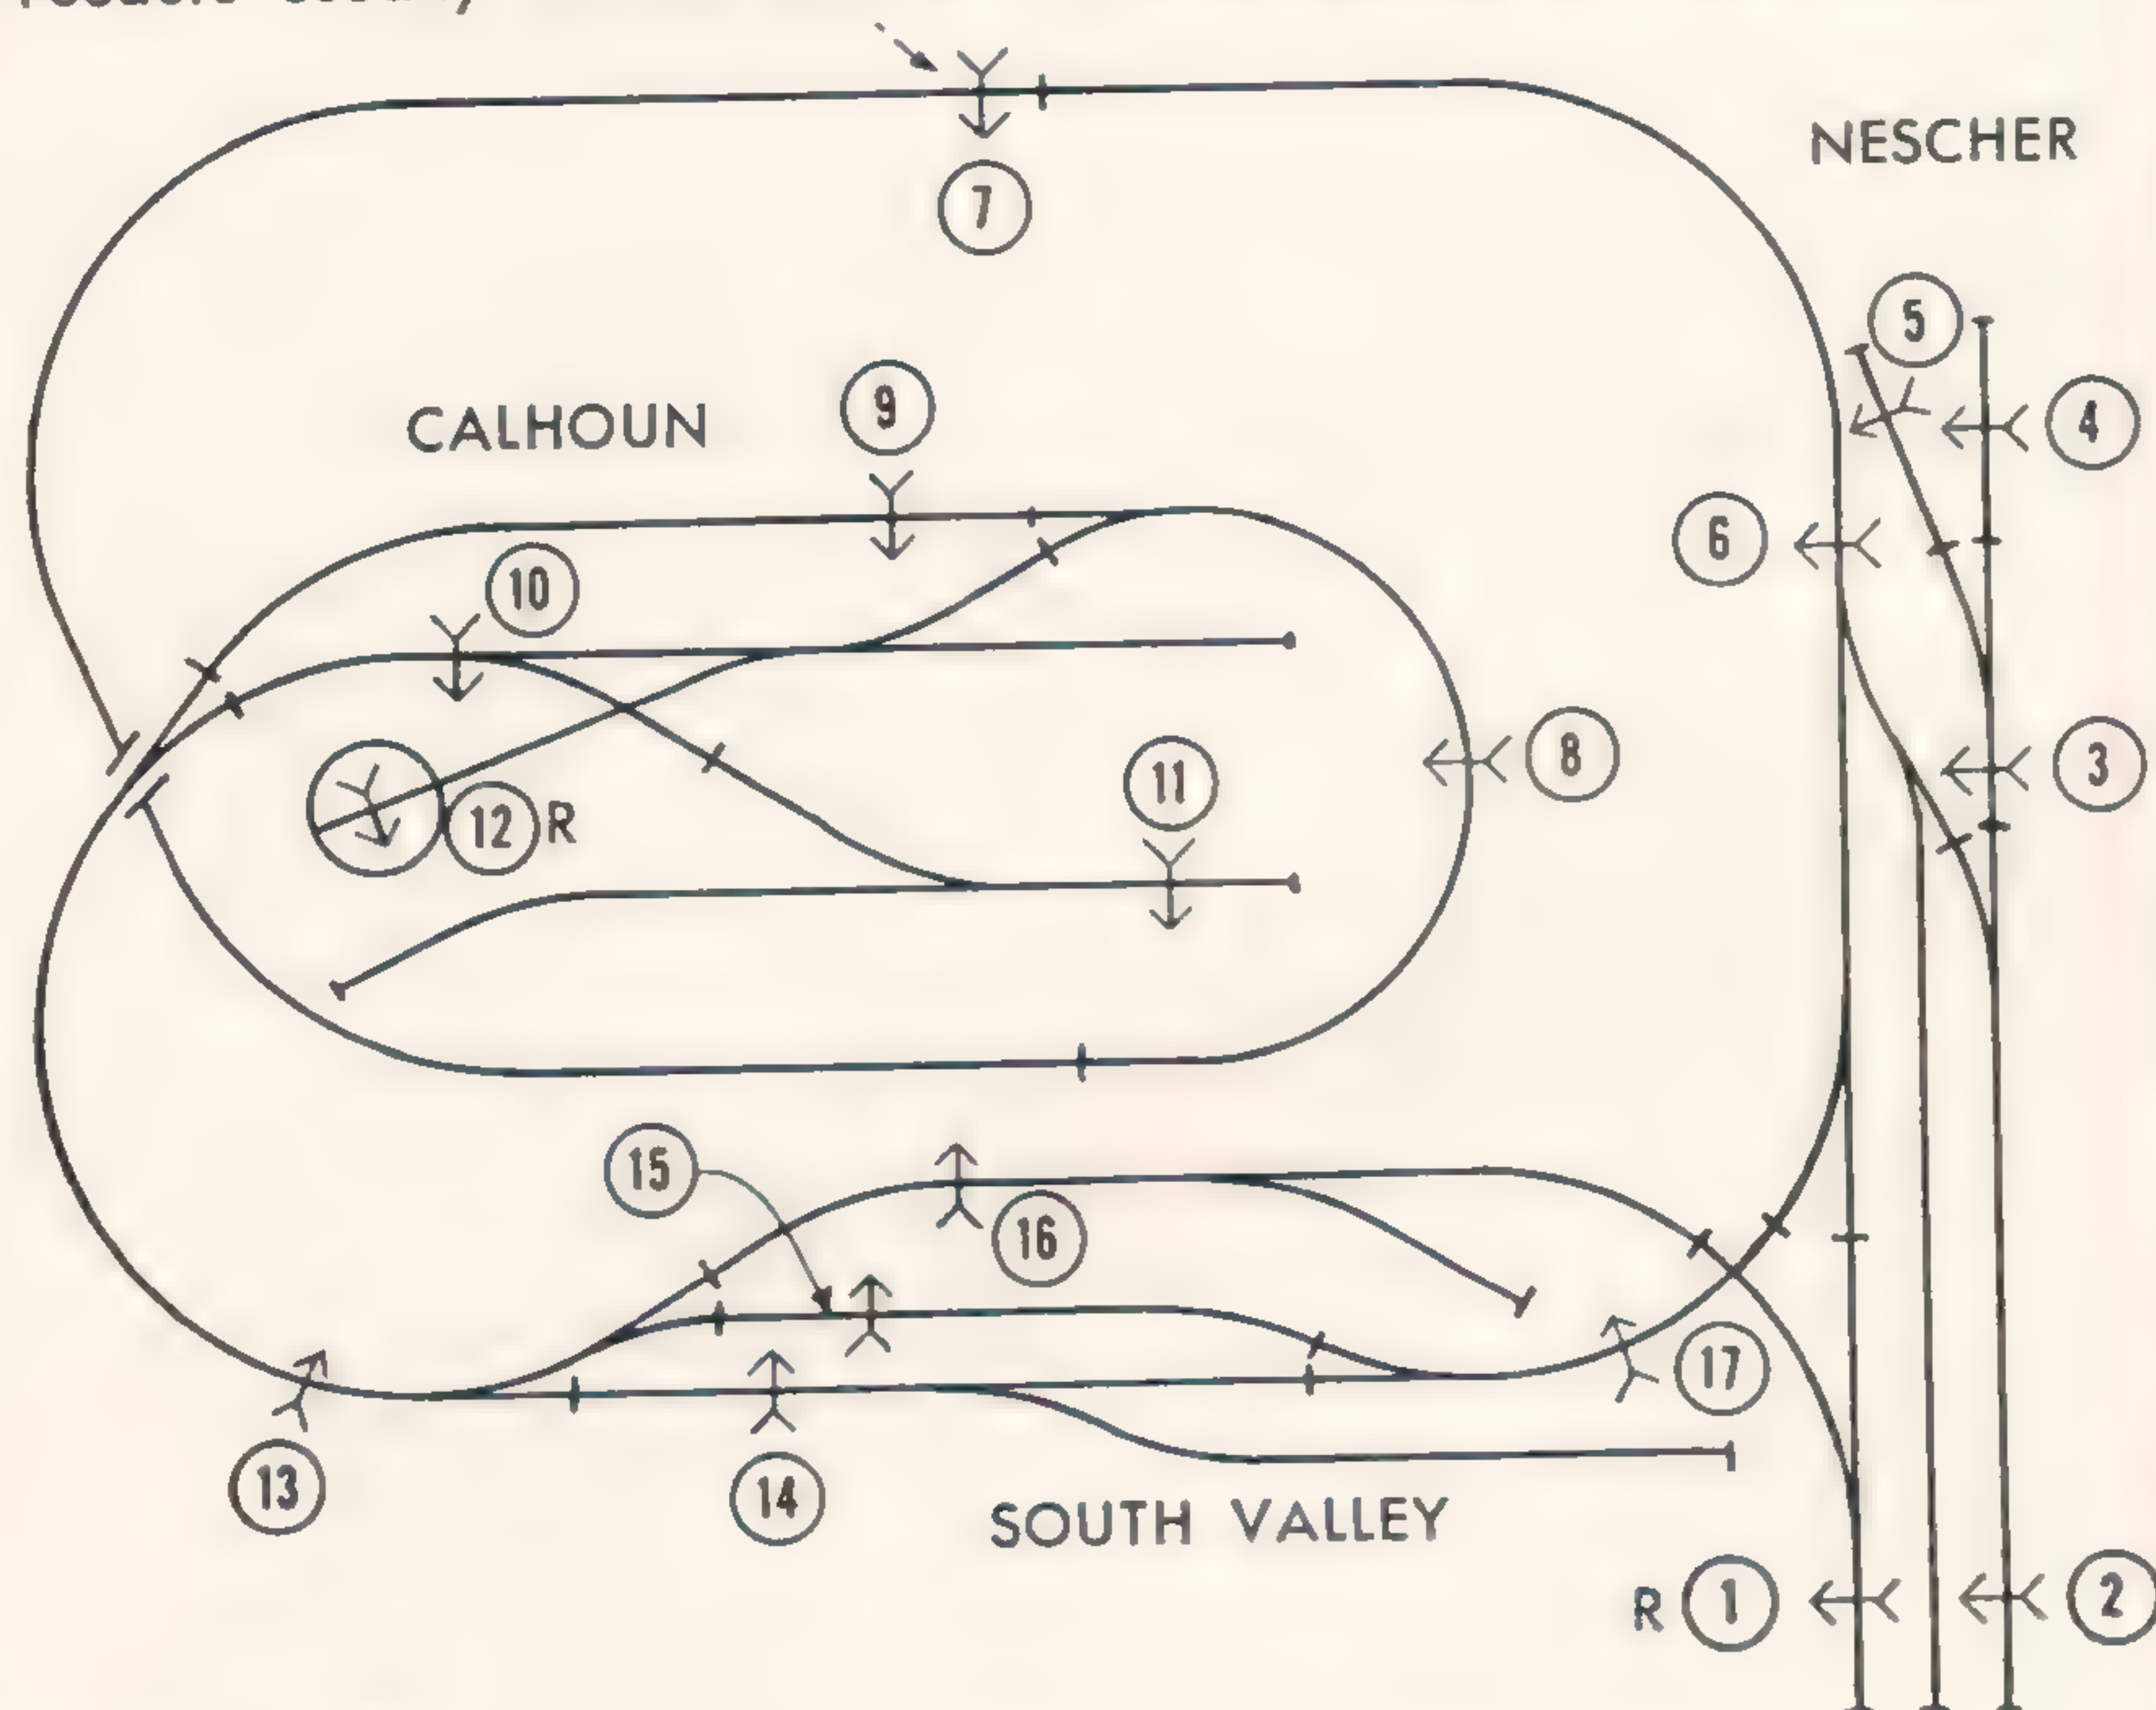

Fig. 18-2
To see how one track plan worked out when following these rules, study Figs. 18-2 and 18-3.
**Fig. 18-3. The Nescher & South Valley Mineral RR. track plan with insulated rail joiners and feeder terminals indicated; compare with Fig. 18-2. This plan also shows how, by cutting the plywood as shown in the small detail drawing and then cutting the river depression, you can extend the 4 x 8-foot size to approximately 5'-6" x 9'-0" over all, with the narrow end 4'-8" wide. This makes the grade separation easier and greatly improves scenic possibilities between the tracks. Track elevations in inches are shown in circles on this drawing. Dotted trackage is in tunnel, hidden by scenery.**